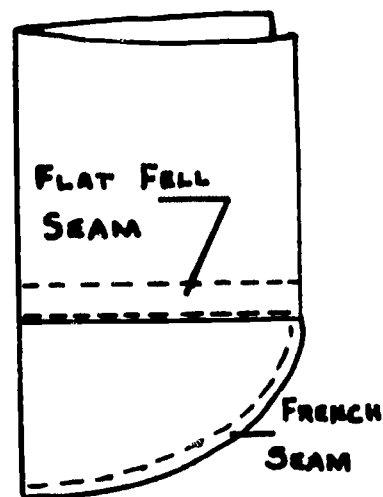

Figure 77.
2. Attach the half-pocket to what was left of the original pocket using a flat fell seam. Make a French seam at the bottom of the pocket for reinforcement (see Figure 77). Refer to Experiences with Clothing, pages 343-344, for directions on how to make French and flat fell seams. (Pollard, Belle. Experiences with Clothing. Boston, Massachusetts: Ginn and Company. 1961.)